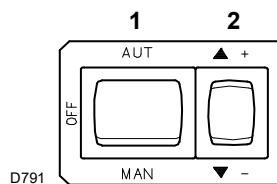
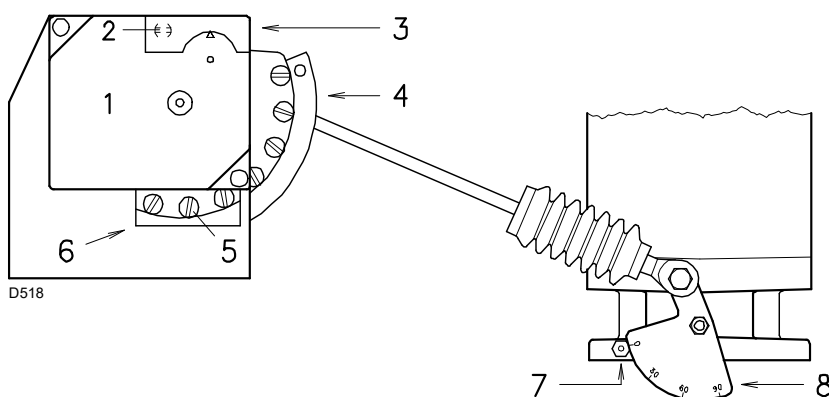
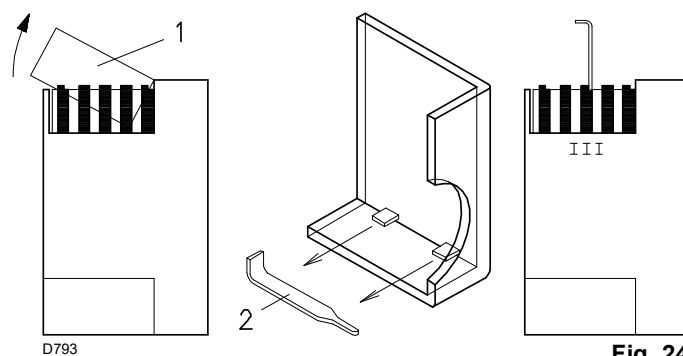

Fig. 22
Fig. 23
Fig. 24
Turn off the remote controls and set the switch 1)(Fig. 22) to "MAN".
Now press the "increase output" button 2)(Fig. 22), and keep it pressed until the servomotor has opened the air damper and the gas butterfly valve to 90°.
Progressively adjust the end profile of cam 4)(Fig. 23) by turning the screws of the cam that appear inside the opening 6)(Fig. 23).
Key (Fig. 23)
Press the “reduce output” button 2)(Fig. 22 on page 24) and keep it pressed until the servomotor has closed the air damper and the gas butterfly valve is at 20° (adjustment made in the factory).
- If it is necessary to reduce it, slightly decrease the angle of cam III (Fig. 24) with small, regular movements, i.e. bring it from an angle of 20° to 18° - 16°....
- If you need to increase it, lightly press the “increase output” button 2)(Fig. 22 on page 24) (open the gas butterfly valve by 10-15°), and increase angle of cam III (Fig. 24) with a series of small movements, i.e. move from angle 20° to 22° - 24°....
To adjust cam III, remove the snap action cover 1)(Fig. 24), remove the relative key 2) from inside and insert it into the notch of cam III.
Progressively adjust the beginning profile of cam 4)(Fig. 23) by turning the screws of the cam that appear inside the opening 6)(Fig. 23).
Lightly press the "increase output" button 2)(Fig. 22 on page 24) so that a new screw 5)(Fig. 23) appears inside the opening 6)(Fig. 23), adjust it until optimal combustion is obtained.
Switch off the burner using the switch 1)(Fig. 22 on page 24), position OFF, release the variable profile cam from the servomotor putting the notch 2)(Fig. 23) in the vertical position.